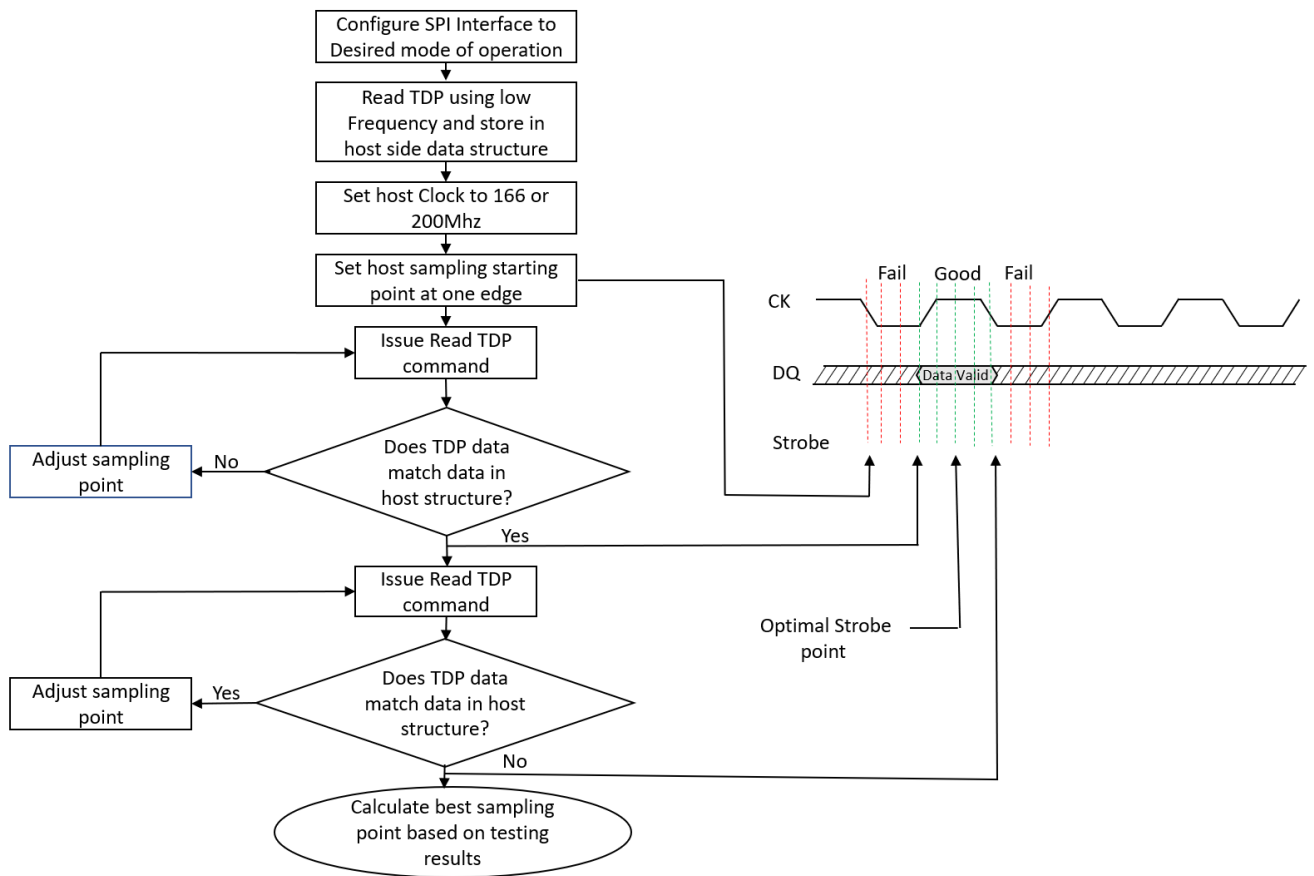

FIGURE 3 TDP LOGICAL FLOW CHART
For proper TDP operation the following sequence of events is recommended. Please refer to TDP logical sequence flow chart Figure 3.
- d. Follow TDP logical flow chart steps in Figure 3 for determining optimal Data Strobe placement.